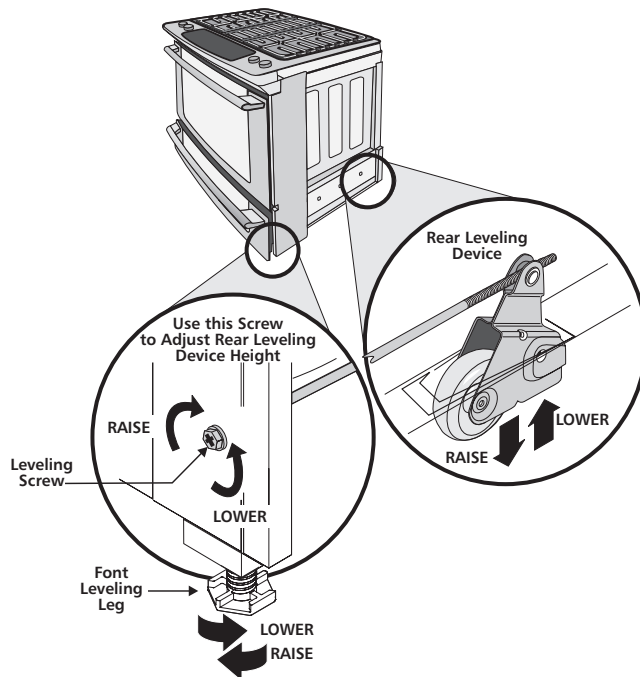

Figure 7
- 2. Adjust the appliance legs and wheels as follows until the underside of the cooktop surface is sitting level on the countertop (Figure 7).